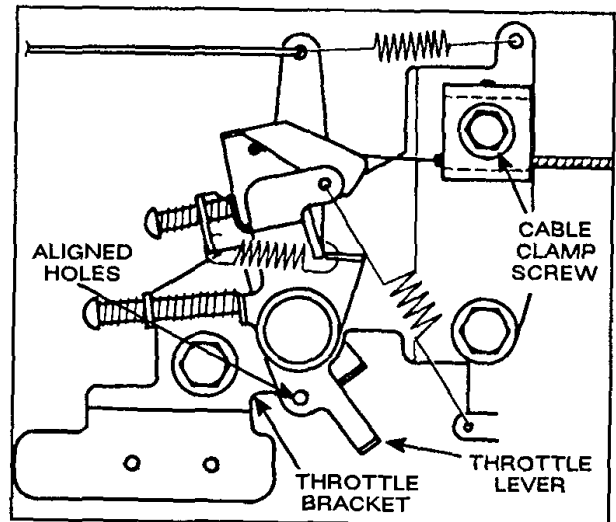

Figure 17
3. Loosen cable clamp screw until throttle cable slides (Fig. 17). Align holes in throttle lever and throttle bracket. Tighten cable clamp screw to lock adjustment in place.